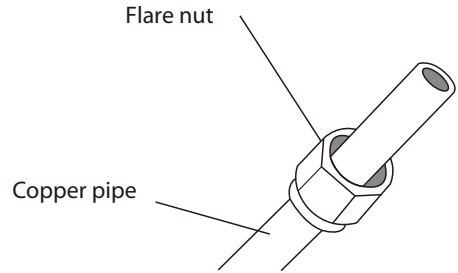

Fig. 2.3
3. Place flare nuts on both ends of pipe. Make sure they are facing in the right direction, because you can't put them on or change their direction after flaring. See Fig. 2.3 .